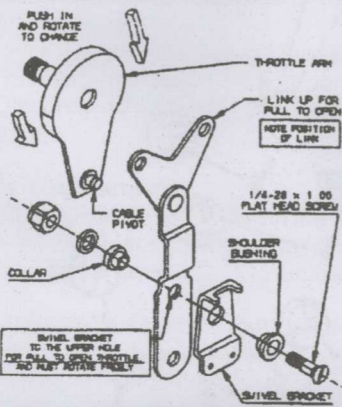

Fig. 3 "Pull to Open" Setting
- Depending on the requirement of throttle cable action, check the settings for Throttle Arm, Link Assembly arrangement and Swivel Bracket Position (Ref. Fig. 3 and 4) (For reversing the cable action settings, refer to the instruction "2.4.2")
2.4.2) Setting for reversing the cable action (Push to Pull / Pull to Push) (Ref. Fig. 3 and 4)